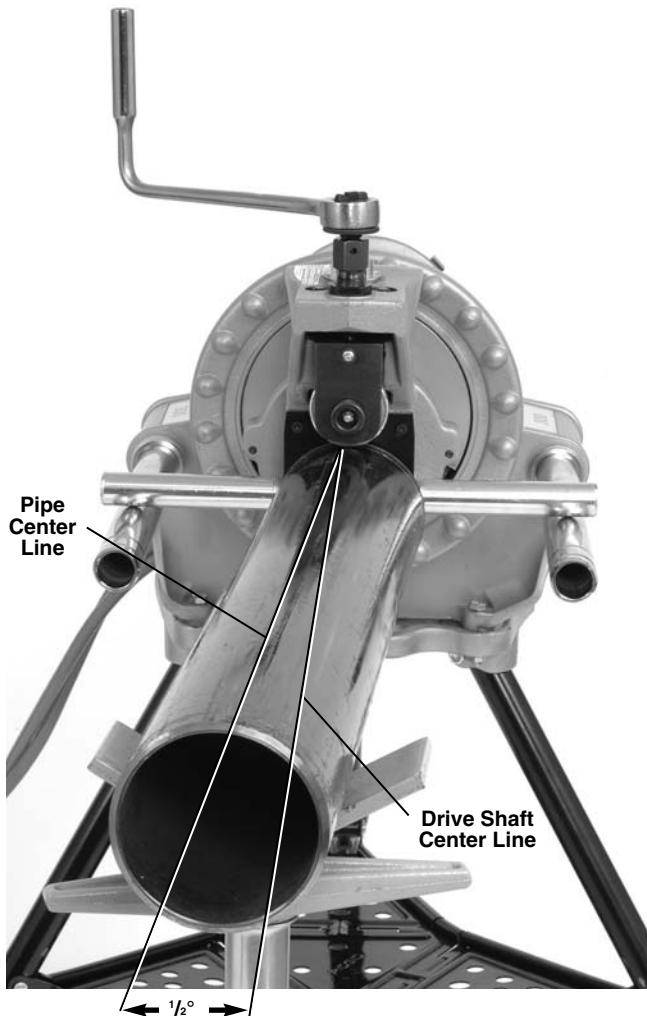

Figure 9 – Offsetting The Pipe 1/2° Towards Operator (Exaggerated)
7. Slightly offset the pipe and pipe stands approximately 1/2 degree (about 1" over at 10 feet from the roll groover) towards the operator. Proper alignment of the pipe and roll groover helps to insure proper tracking of the pipe while grooving. (See Figure 9.)
- Slightly increase the offset of the pipe towards the operator (increase from $\frac{1}{2}$ degree to 1 degree) (See *Figure 9*).